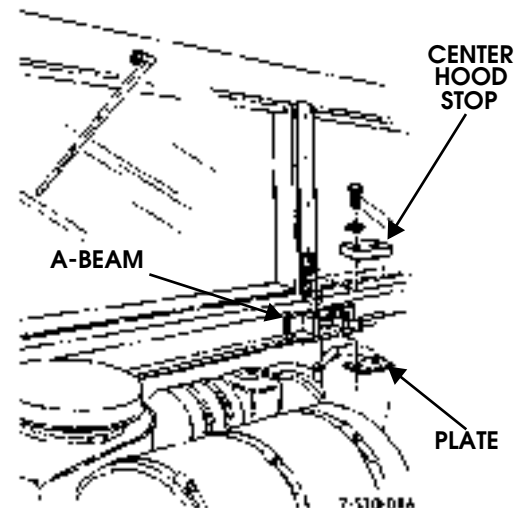

Figure 10-92: Center Hood Stop Replacement
Remove two bolts, washers, center hood stop, and plate from A-beam (Figure 10-92).
Secure center hood stop and plate to A-beam with two washers and bolts. Tighten bolts to 12 lb-ft (16 N•m) (Figure 10-92).
2. Lower hood and align guide bracket assembly with center hood stop on A-beam (Figure 10-92).